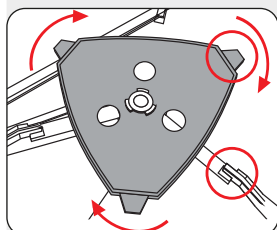

Fig. 6: Attaching the accessory tray
3. Place the accessory tray (14) onto the central mounting point (9) (Fig. 6). Rotate the accessory tray clockwise until its clamping lugs (11 a) engage beneath the fixing grooves (10) of the cross braces (4 a).
4. Press the battery pack holder (12) with the clamping jaws (12 a) onto one of the upper tripod leg sections (3) (no illustration).